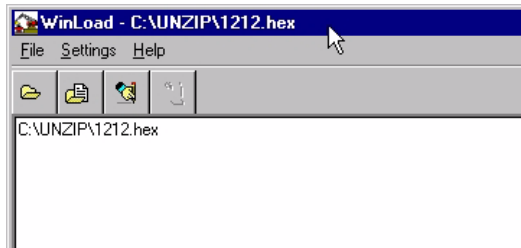

Figure 25: Open File in WinLoad
Once you have selected your file, the name should appear in the main display area and in the title bar, see *Figure 25*.
3. Make sure the file path and file name are displayed in main display area, see *Figure 25, Open File in WinLoad* on Page 85.